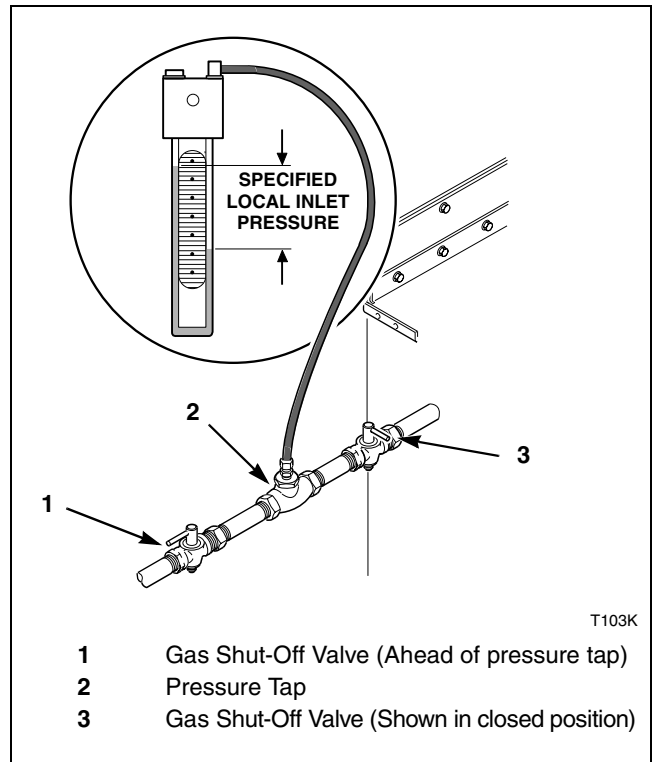

Figure 6
1. Disconnect electrical power from tumbler. Close gas shut-off valve to tumbler. Refer to *Figure 6* and *Figure 7*.